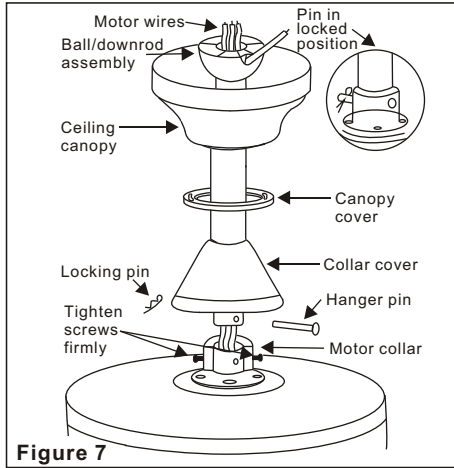

Figure 7
Step 6. Route wires exiting from the top of the fan motor through the collar cover, canopy cover, canopy and then through the ball / downrod.(Fig. 7)
Step 7. Align the holes at the bottom of the downrod with the holes in the collar on top of the motor housing(Fig.7). Carefully insert
the hanger pin through the holes in the collar and downrod. Be careful not to jam the pin against the wiring inside the downrod. Insert the locking pin through the hole near the end of the hanger pin until it snaps into its locked position, as noted in the circle inset of Fig. 7.
Step 8. Tighten two set screws on top of the fan motor firmly (Figure 7)